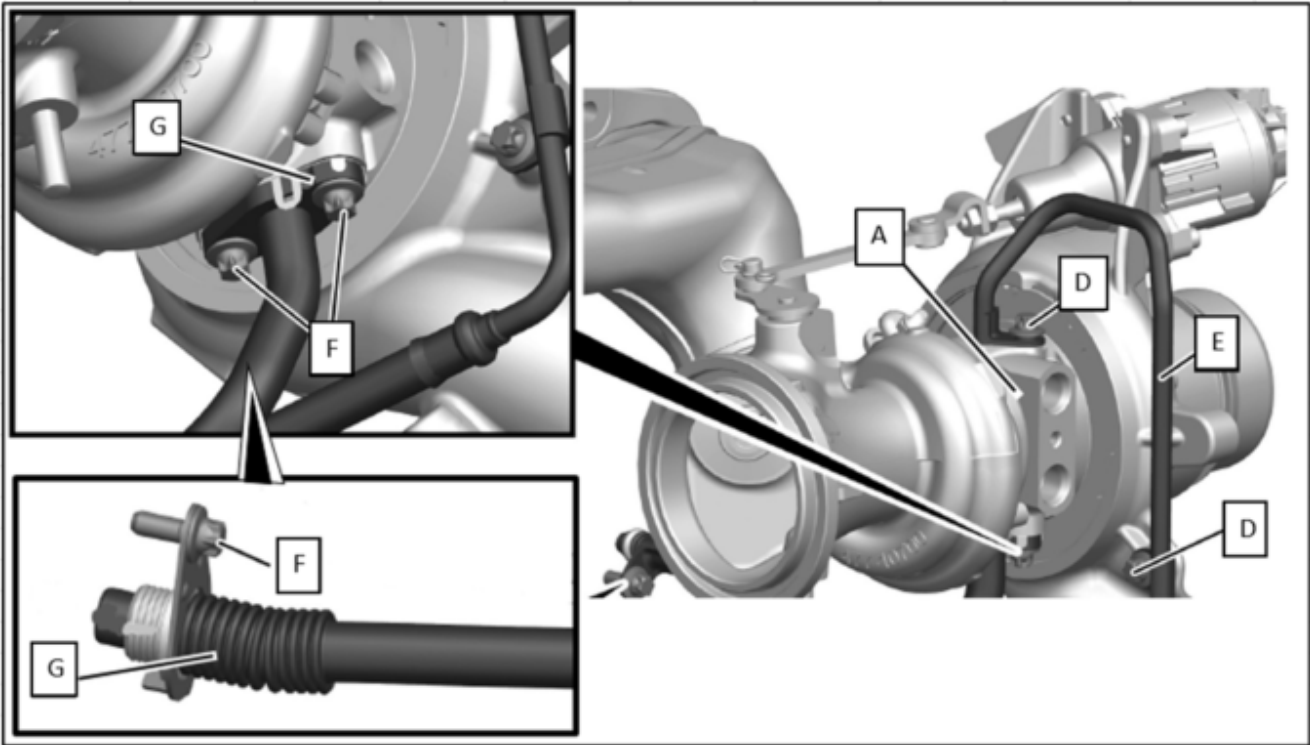

Figure 2
6. Retighten screws (**D, figure 2**) of oil feed line (**E, figure 2**) at exhaust gas turbocharger (**A, figure 2**) with **10 Nm**.
7. Retighten screws (**F, figure 2**) of oil return feed line (**G, figure 2**) at exhaust gas turbocharger (**A, figure 2**) with **10 Nm**.